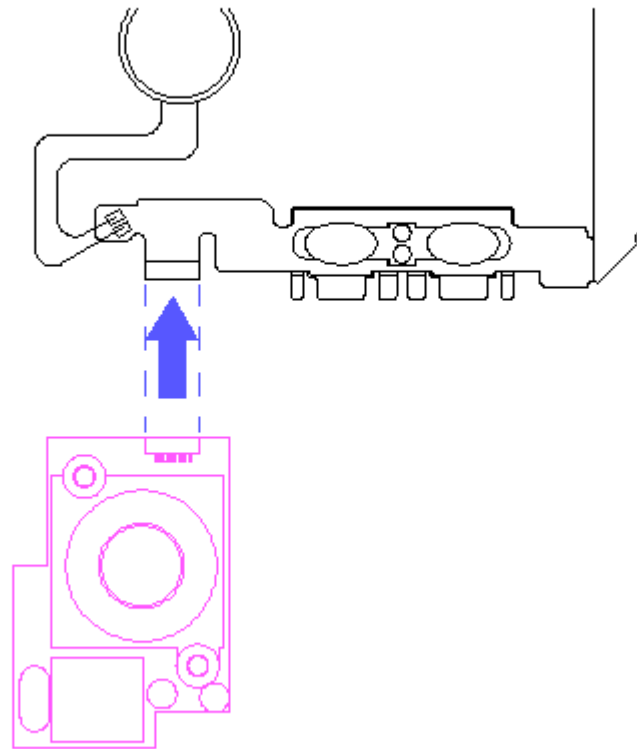

Figure 3-40. Connecting the Trackball to the Cable Assembly
1. Connect the trackball to the small tab on the cable assembly (Figure 3-40).